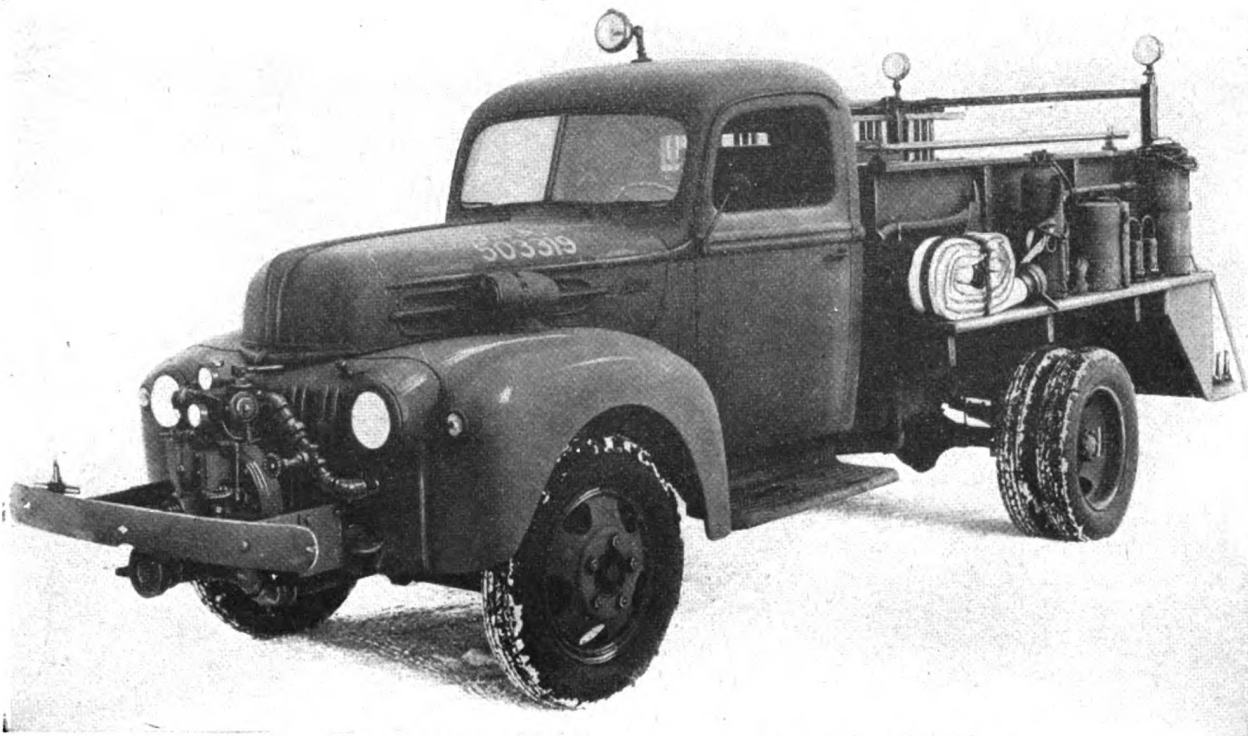
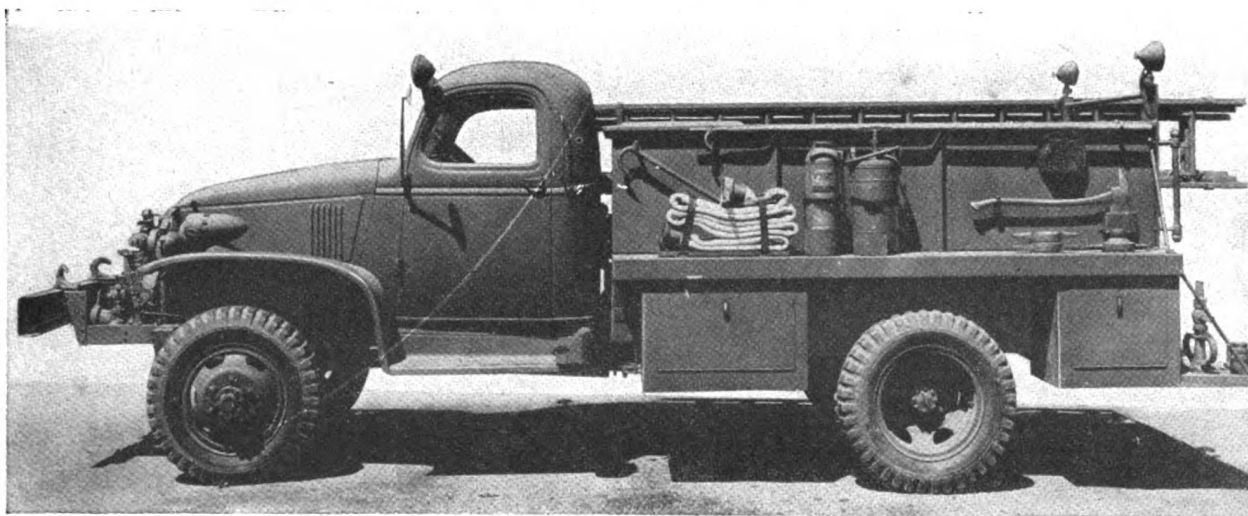

Figure 2. Class 525 fire truck, 4 x 2 chassis. (Stock No. 58-9120.920-525.)
Figure 3. Class 525 fire truck, 4 x 4 chassis. (Stock No. 58-9120.922-525)
c. **CLASS 525 FIRE TRUCK**. The class 525 fire is issued on a 4x2 (fig. 2) or 4x4 (fig. 3) chassis with a 90- to 110-hp engine. It carries a front-mounted 500-gpm capacity pump, a booster tank, hose body, and standard fire-fighting equipment prescribed in Set Number ENG 6 485-14.